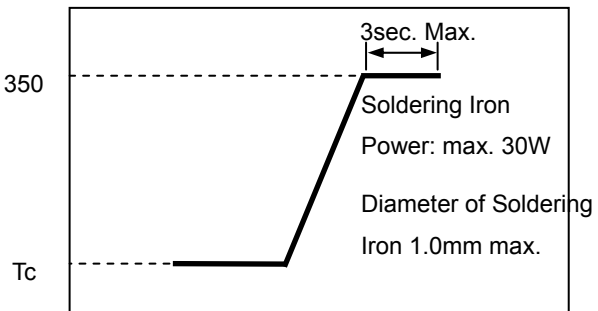

Fig. 11.2-1.
- Please refer to Fig. 11.2-1.